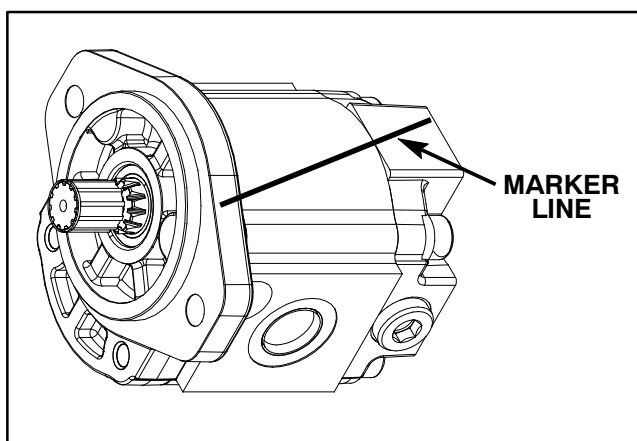

Figure 87
2. Use a marker to make a **diagonal** line across the front flange, body and rear cover for assembly purposes (Fig. 87).